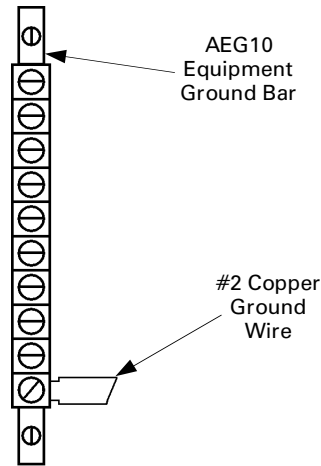
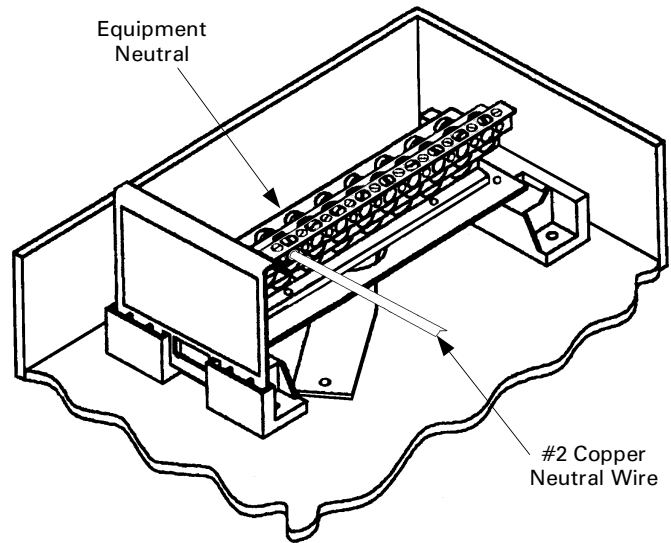

Figure 3. Attach the #2 ground cable to the AEG10 equipment ground.
Figure 4. Attach the #2 neutral cable to the equipment neutral.
5. **Attach the wire to neutral and ground.** Cut and strip the free end of the ground cable and attach to the equipment ground, as shown in Figure 3. Note that an AEG10 ground [3] is supplied with this kit that should be installed with the instructions provided. If there is an available ground that will accept a #2 cable, then discard item [3]. Select the lughole closest to the TVSS unit. Do the same for the neutral (if applicable), as shown in Figure 4. Tighten the lug screws to the torque levels specified on the component labels.